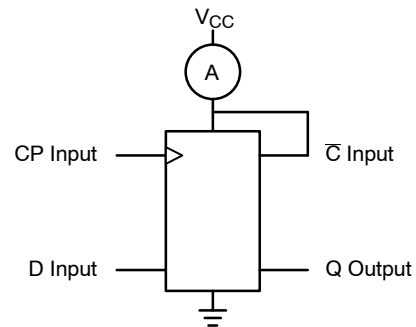

Figure 6. I_{CCD} Test Circuit
2. C_{PD} is defined as the value of the internal equivalent capacitance which is derived from dynamic operating current consumption (I_{CCD}) at no output loading and operating at 50% duty cycle. (See Figure 6)